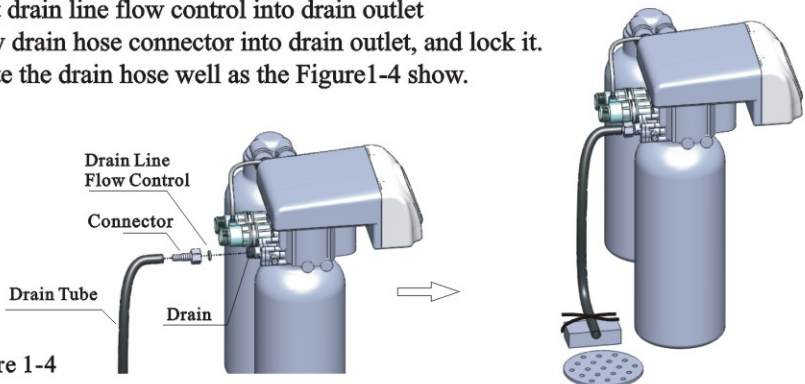

Figure 1-4
⑤ Install drain pipeline
- As the Figure 1-4 shows, slide the drain hose connector into drain outlet.
- Locate the drain hose well as the Figure 1-4 show.
- Be sure not connect drain with sewer, and leave a certain space between them, avoid wastewater be absorbing to the water treatment equipment, such as showed in the Figure1-4.